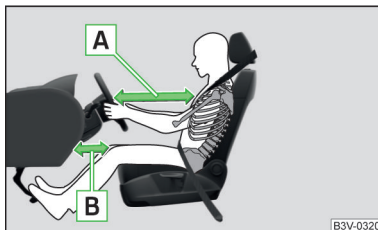

Fig. 21
- It is important for the driver and front passenger to maintain a minimum distance of 25 cm from the steering wheel or the control panel » Fig. 21 - . If you do not observe this distance, the airbag cannot protect you - risk to life! The front seats and the head restraints must always be correctly adjusted to match the body size of the occupant.
- Adjust the driver's seat in a forward/back direction so that there is a gap of at least 6 cm between the legs and the dashboard in the vicinity of the knee airbag » Fig. 21 - B. If it is not possible to meet this requirement due to your body size, visit a specialist garage.